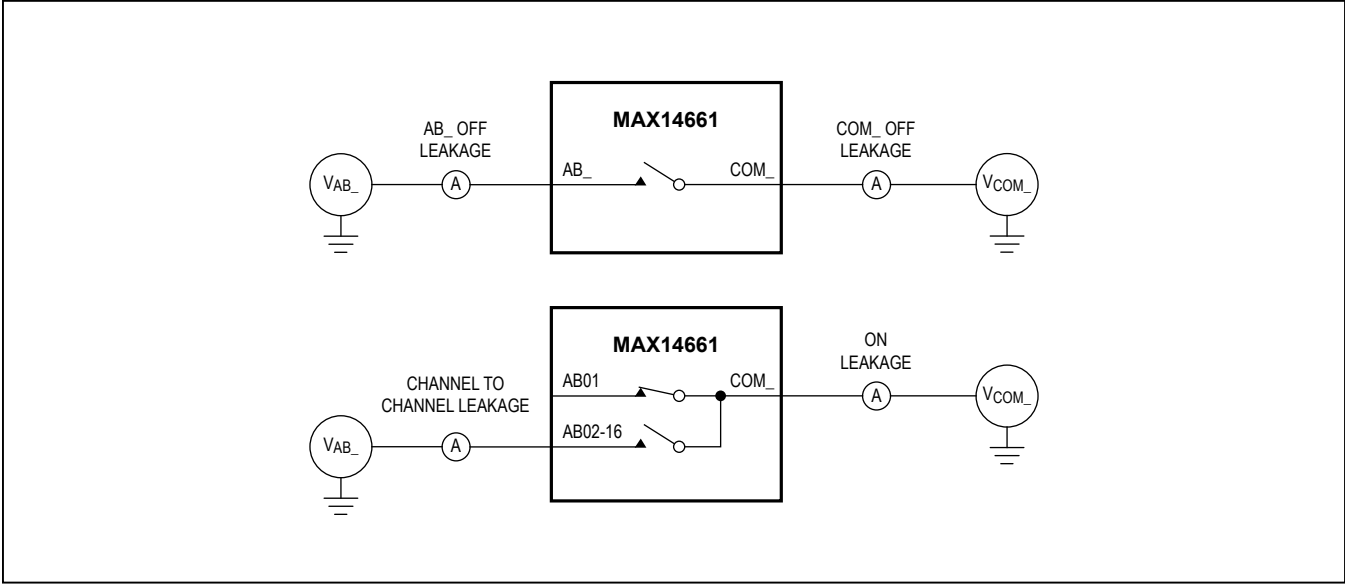

Figure 1. On-/Off-/Channel-to-Channel Leakage Current
**Note 5:** Test circuit Figure 1.